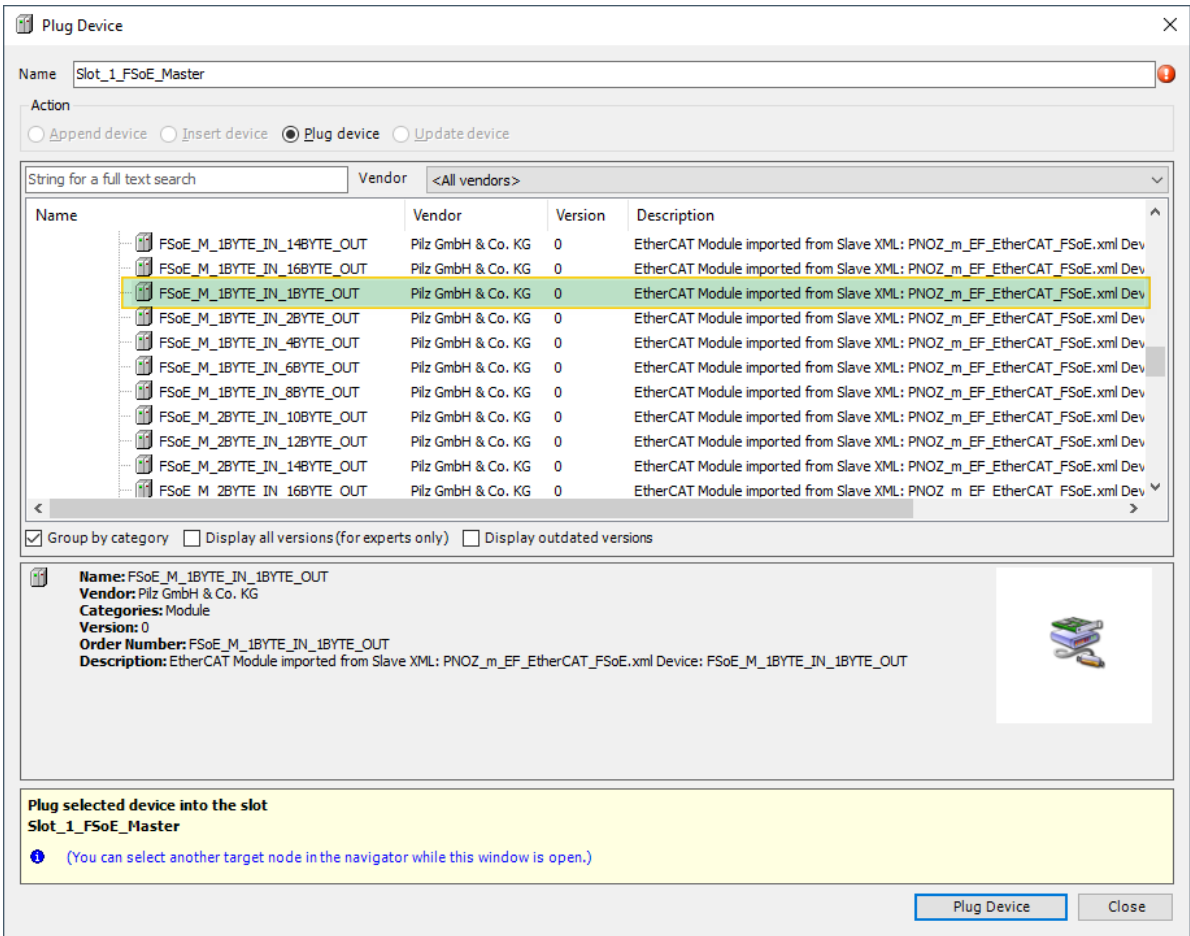

Figure 33: CODESYS – PNOZ m EF EtherCAT FSoE » Plug Device (2)
- ▶ As shown in Figure 33, export the I/O image for all slots used.